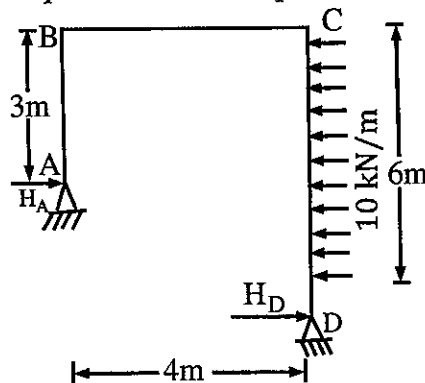

Fig. 2
- Q.2 Identify the unknowns in terms of slope and deflection in the given problem shown in Fig.2. Write down the slope deflection equations for the portal frame ABCD shown in Fig.2. Also, write the conditions available, equilibrium equations and shear equation (if required) to find the unknowns. (Solution of equations is not required to find unknowns).